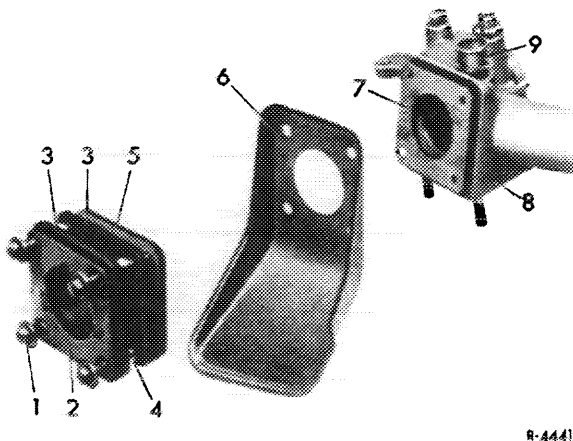

Fig. 07-6/1
The flange attachment of the carburetor to the intake manifold has been newly designed. The carburetor flange remains the same, but the rubber flange (3), the insulating flange (5) and the fastening holes on intake manifold were changed. In addition, a new shield (6) has been installed (Fig. 07-6/1).